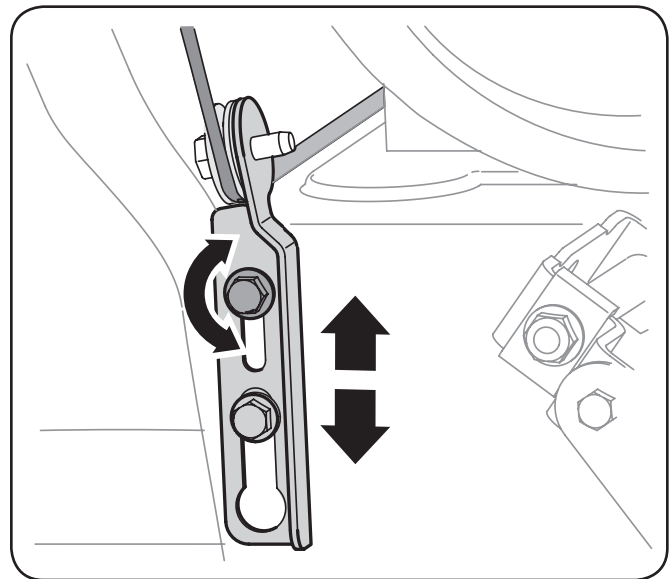

Figure 3-11
4. Allow the auger to remain engaged for approximately ten (10) seconds before releasing the auger control. Repeat this several times.
7. To readjust the control cable, loosen the upper hex screw on the auger cable bracket. See Figure 3-11.